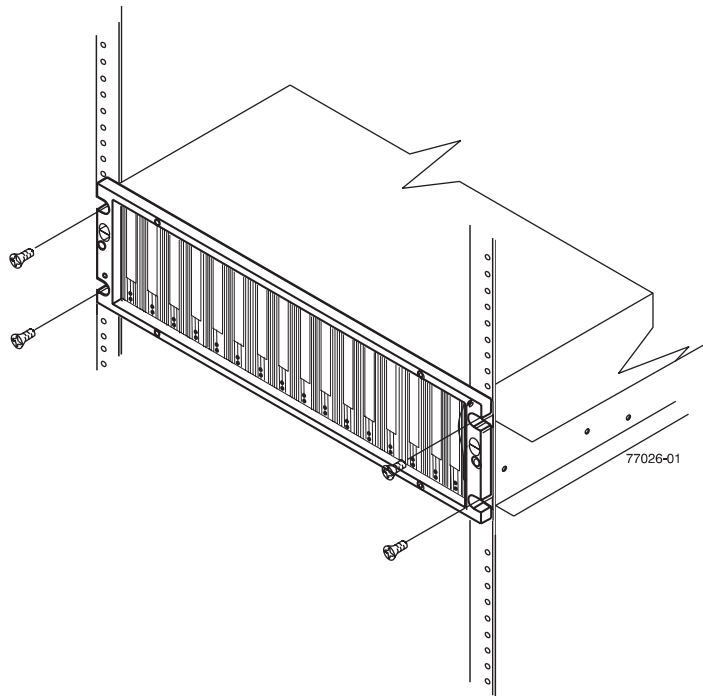

Figure 18. Securing the storage expansion enclosure to the rack
4. Secure the storage expansion enclosure. Figure 18 on page 32 shows how to secure the storage expansion enclosure to the rack.
- c. Secure the front of the storage expansion enclosure using the four M5 screws as shown in Figure 18 on page 32.